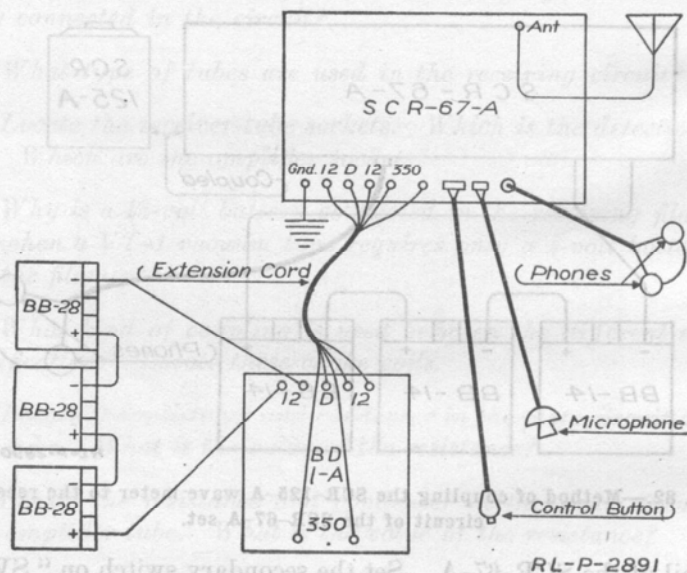

Fig. 83.—Method of coupling the SCR-125-A wave meter to the transmitting circuit of the SCR-67-A set.
8. Connect the 12-volt storage battery to the proper binding posts on the BD-1-A power board. (See Fig. 83.) Using the connection cord CD-23, connect the proper terminals on the BD-1-A power board to the corresponding terminals on the set box, BC-13-A. Plug in the telephone transmitter and the control button in the proper jacks. Open up the front of the set and insert two VT-2 tubes in the transmitting sockets. Close the front and fasten the hooks.